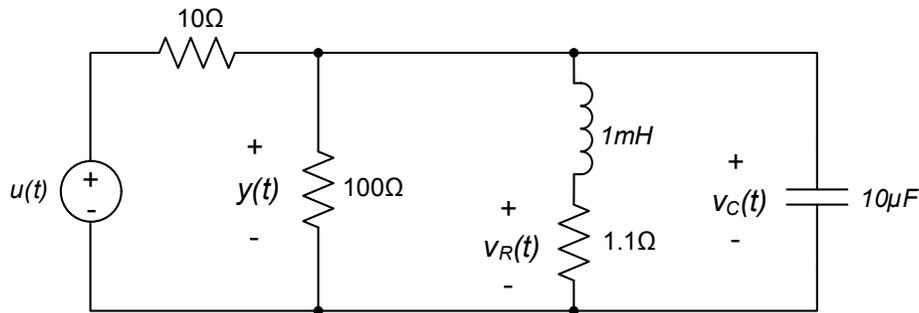

Figure 2. Schematic indicating measured voltages.
- c. Set up the oscilloscope to measure the voltage across the capacitor and the current through the inductor. To do this, we will refer to the circuit schematic shown in Figure 2 below. The capacitor voltage measurement is simple – simply use one of the oscilloscope channels (say, channel 1) to measure $v_C(t)$ indicated on Figure 2.